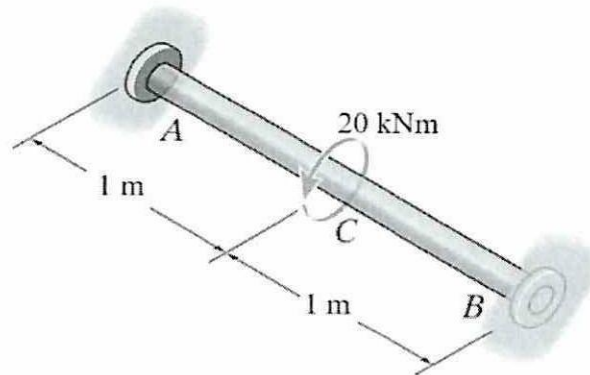

Figure Q3.1
- Q3** (a) A thin-walled circular section beam has a diameter of 200 mm and is 2 m long as shown in **Figure Q3.1**. It is firmly restrained against rotation at each end. A concentrated torque of 20 kNm is then applied to the beam at its mid-span point. If the maximum shear stress in the beam is limited to 200 N/mm² and the maximum angle of twist to 2°, calculate the minimum thickness of the beam walls. Take $G = 25\,000\text{ N/mm}^2$.